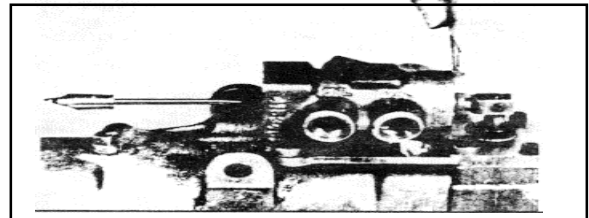

Fig. 3
- (e) Tighten slotted nut (9) but maintain position of valve spool in relation to clevis rod by keeping screw driver in slot as slightest change will affect adjustment. Lock adjustment with cotter pin (8). See Fig. 3.